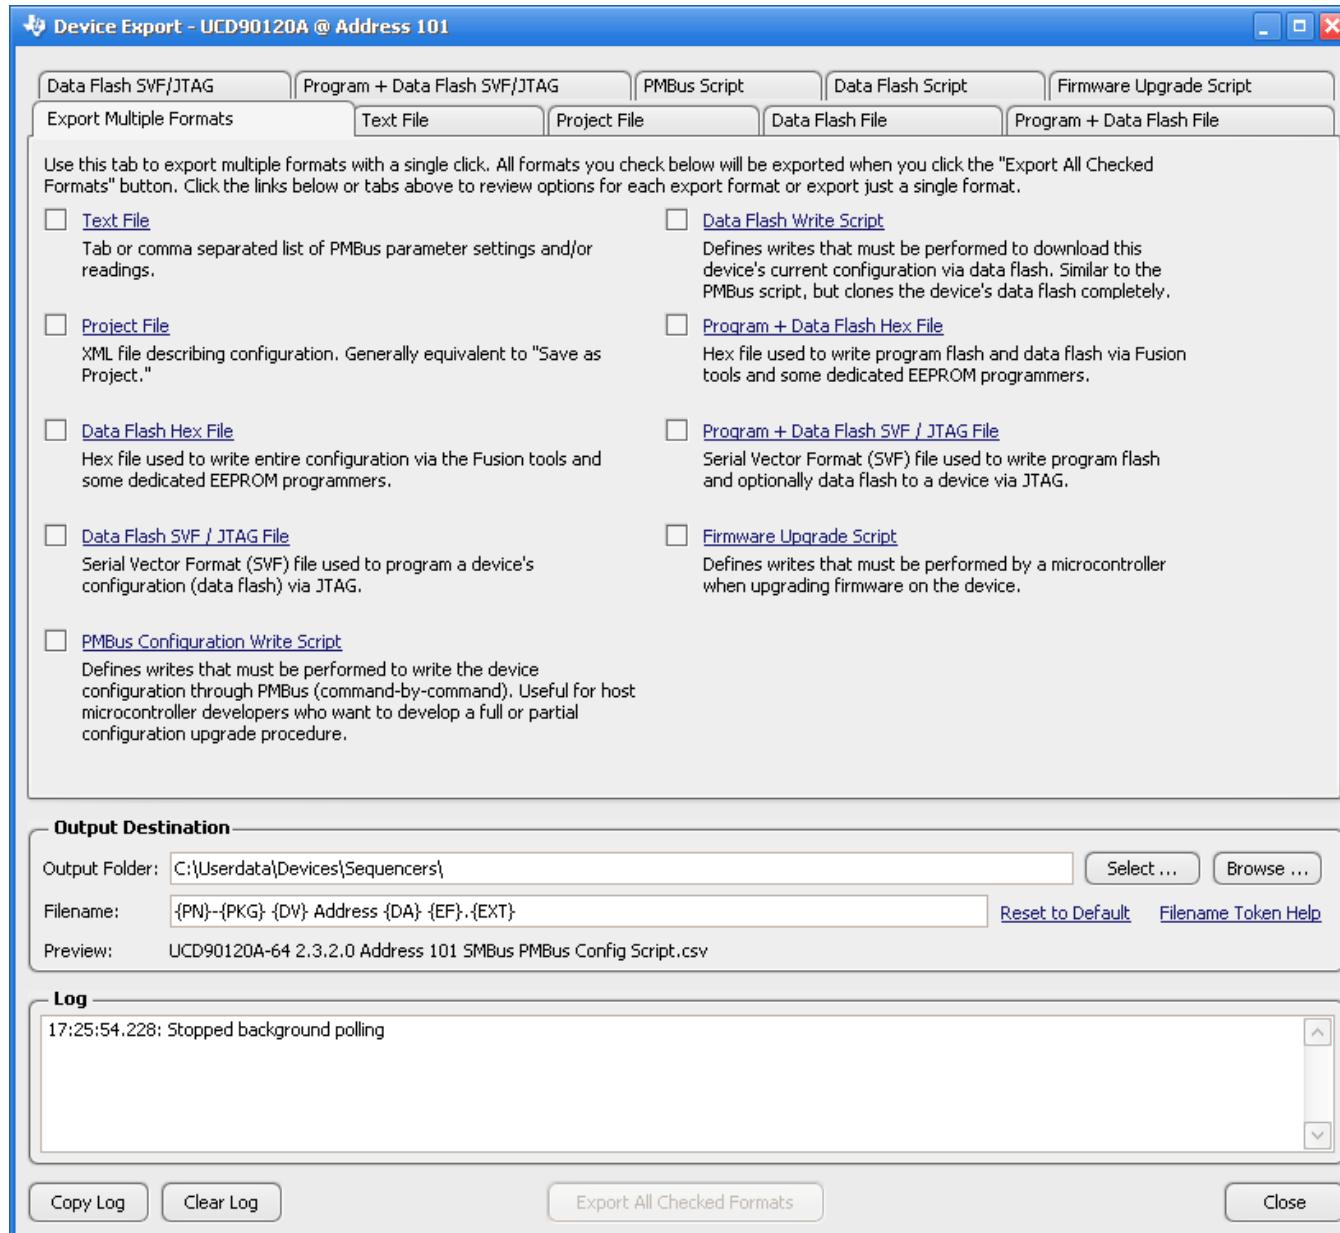

Figure 31. Fusion GUI Device Configuration Export Tool
- Another in-circuit programming option is for the *Fusion GUI* to create a data flash image from the configuration file (Figure 31). The configuration files can be exported in Intel Hex, Serial Vector Format (SVF) and S-record. The image file can be downloaded into the device using I2C or JTAG. The *Fusion GUI* tools can be used on-board if the *Fusion GUI* can gain ownership of the target board I2C bus.